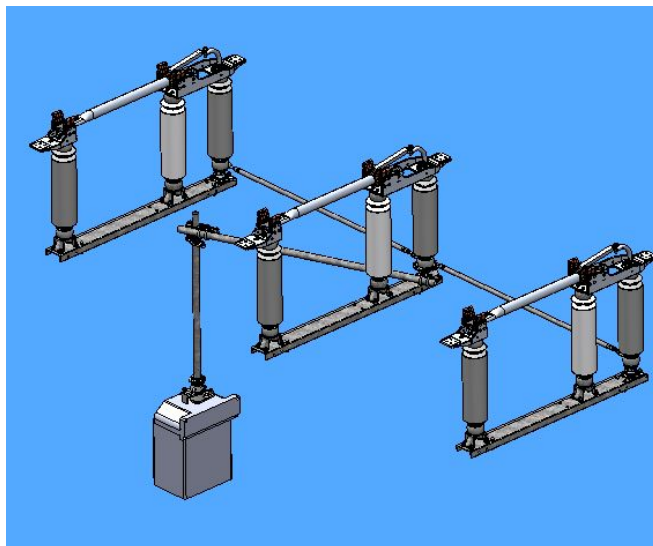

Figure 11: Typical Operating Mechanism
- 5.1. Switches are designed to be opened and closed as a three-phase unit by a system of pipes that translates the rotational movement of an operator on the ground (whether manual or motor) to near simultaneous rotation of the end insulator of each switch pole. **Figure 11** shows a typical operating mechanism for a 72.5kV vertical break switch. Refer to the job specific Operating Mechanism Drawing for the exact layout and custom mounting requirements.